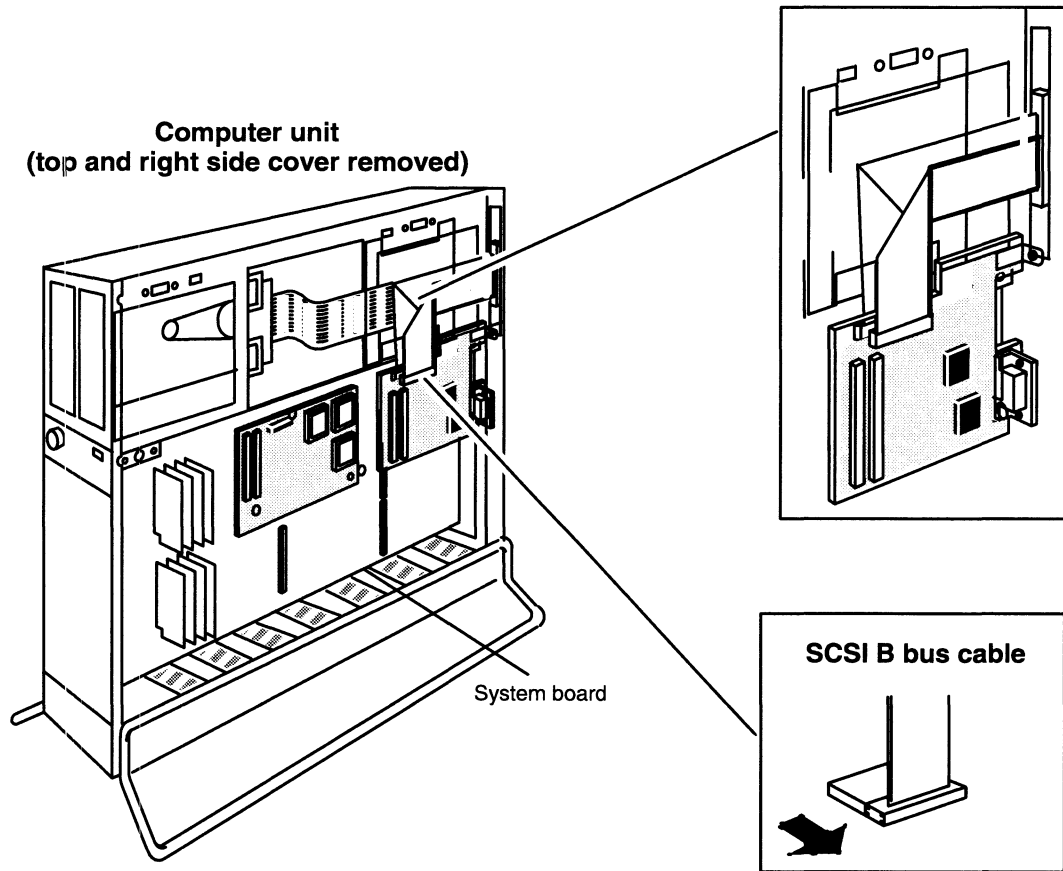

Figure 9-11 I/O Expansion Board SCSI Ribbon Cable
2. Disconnect the ribbon cable connecting the I/O expansion board to the SCSI B connector as shown in Figure 9-11.